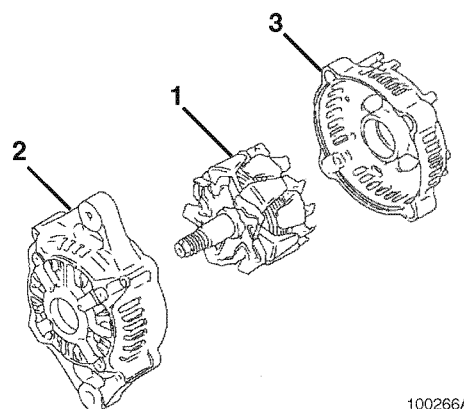

Figure 12-9
8. Using a press, remove the rotor assembly (**Figure 12-9, (1)**) from the front frame housing (**Figure 12-9, (2)**) and rear frame housing (**Figure 12-9, (1)**).